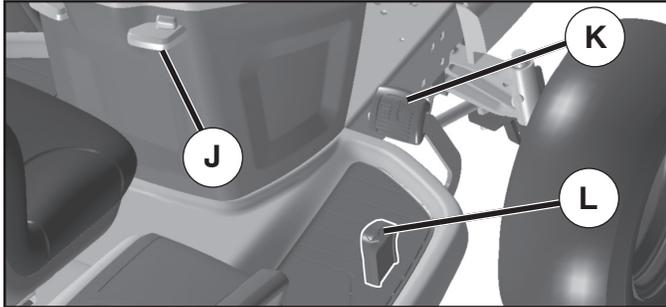

Fig. 20
TO MOVE FORWARD AND BACKWARD (See Fig. 20)
TO USE CRUISE CONTROL (J) (See Fig. 20)